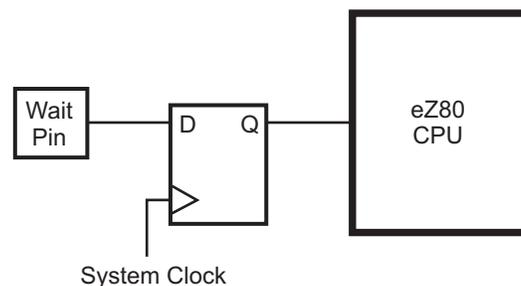

Figure 5. Wait Input Sampling Block Diagram
**Caution:** If the WAIT pin is to be driven by an external device, the corresponding Chip Select for the device must be programmed to provide at least one WAIT state. Due to input sampling of the WAIT input pin (shown in Figure 5), one programmable WAIT state is required to allow the external peripheral sufficient time to assert the WAIT pin. It is recommended that the corresponding Chip Select for the external device be programmed to provide the maximum number of WAIT states (seven).